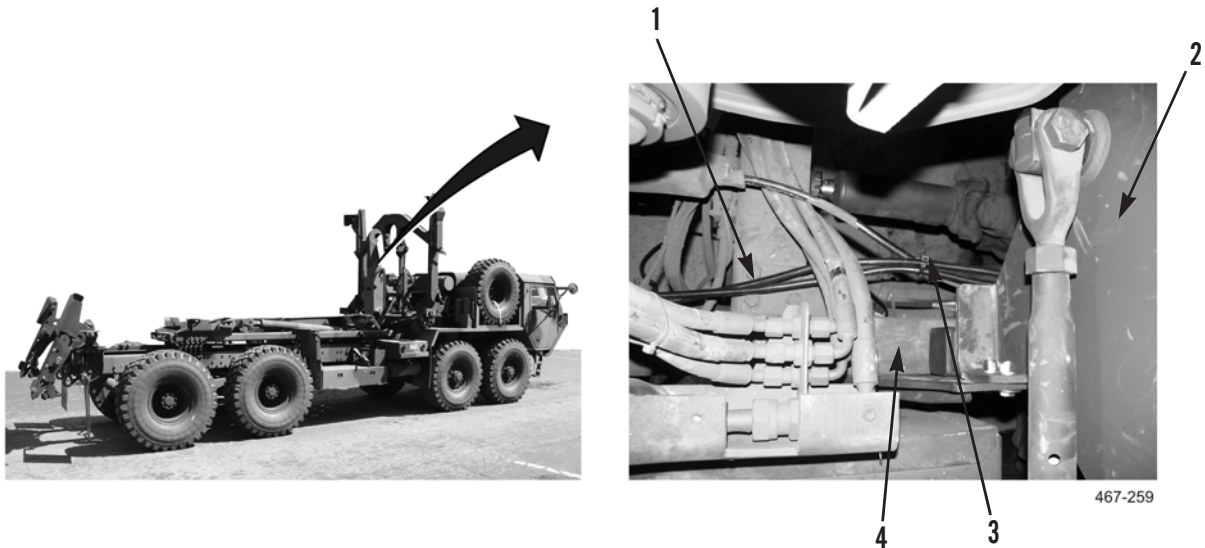

Figure 12. Middle Frame and Hook Arm Harness Installation.
37. Route middle frame sensor and hook arm sensor harnesses (Figure 12, Item 1) from stowage assembly (Figure 12, Item 2), along inside of right side of frame (Figure 12, Item 4) to rear of main frame.
38. Install new tiedown straps (Figure 12, Item 3) as required to attach middle frame and hook arm sensor harnesses (Figure 12, Item 1) to existing hoses along frame.